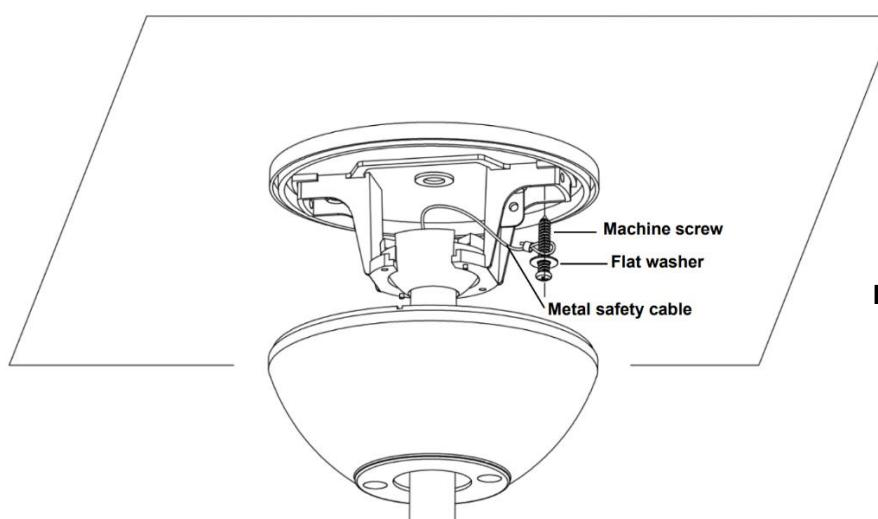

Fig. 10
7. Installed the metal safety cable into the house structure beams using the machine screws and flat washer which provided, make sure that when the safety cable is fully extened the lead wires are longer than the cable and no stress is placed on the lead wires. (**Fig. 10**)